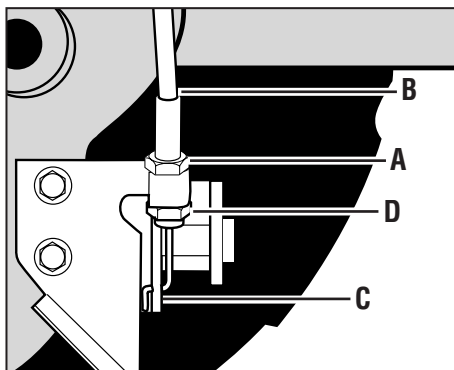

Figure 5-4: Wheel gear cable assembly.
2. Loosen the top adjustment nut (A, Figure 5-4) on the wheel gear cable bracket that is located on the left side rear of the transmission.
3. Push the wheel gear cable (B) down and roll the tiller slightly forward or backward until the eccentric lever (C) engages (locks) the wheels. Hold the cable in that position and tighten the top (A) and bottom (D) adjustment nuts.